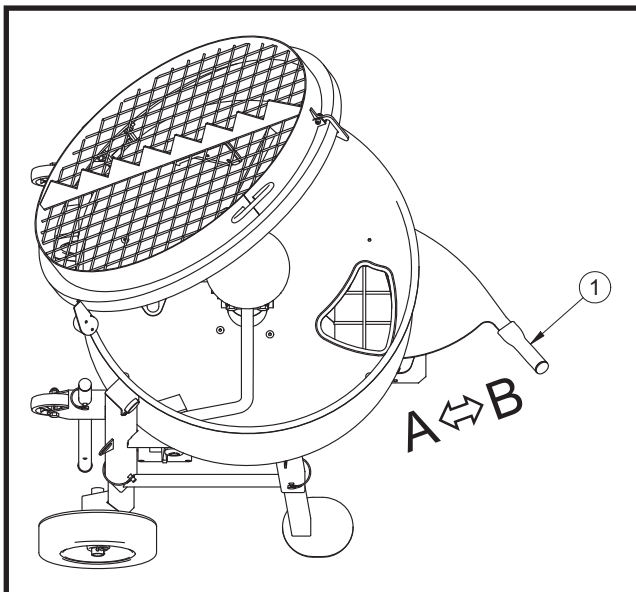

Fig.6
To do this, pull the lever (ref.1, fig.6), for its full stroke, to position B.